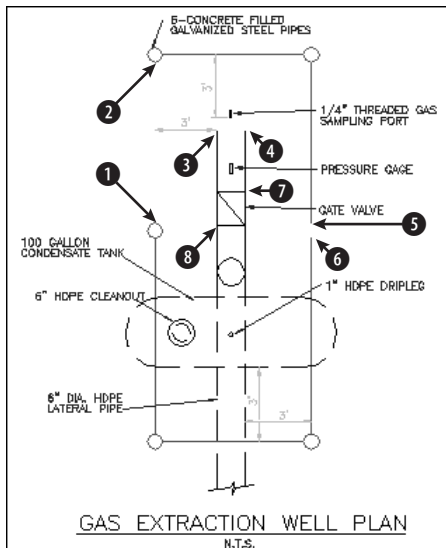
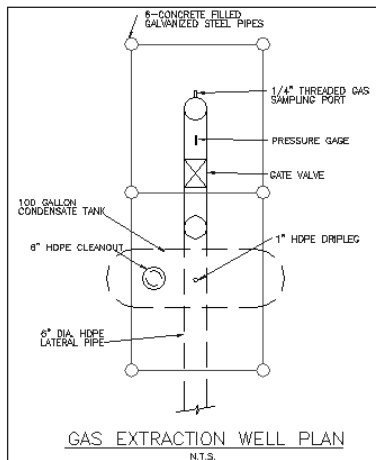

Figure 11-13: This gas extraction well plan drawing needs to be completed.
Figure 11-14: The completed drawing
2. Save the file as `ab11-02.dwg` in your AutoCAD Bible folder. This drawing is shown in Figure 11-13. The current layer is 0. Make sure OSNAP is on. Set running object snaps for endpoint and quadrant.
4. Start the LINE command. Draw a line from ❶ to ❷ in Figure 11-13, using the Quadrant running object snap.
7. Start the CIRCLE command. Right-click and choose 2p to use the two point option. Draw a circle from the endpoint of ③ to ④ in Figure 11-13 using the Endpoint running object snap.
8. Without changing the layer, start the CIRCLE command and again use the 2p option. Draw a circle between the endpoints at ⑤ and ⑥ in Figure 11-13.
10.  Pick any red object (the Pipes layer). Choose Make Object's Layer Current from the Layers toolbar. The Pipes layer is now the current layer. Draw a line from the right quadrant of the circle at ① to the left quadrant of the circle at ⑤ and ⑥ in Figure 11-13.
11.  You want to draw a line on the Object layer. Because that is the previous layer you used, click Layer Previous on the Layers toolbar. The Object layer is now the current layer. Draw a line from the endpoint at ⑦ to the endpoint at ⑧.
13. Save your drawing. It should look like Figure 11-14.